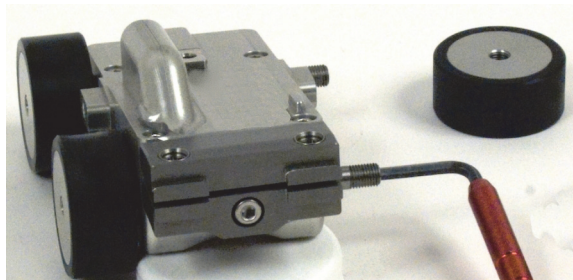

Figure 2-27 Using the supplied universal tool to install the magnetic wheels
8. To remove wheels, hold one of the wheel with your hand, and use a hexagonal key or the supplied universal tool to unscrew the opposite wheel screw (see Figure 2-27 on page 57).